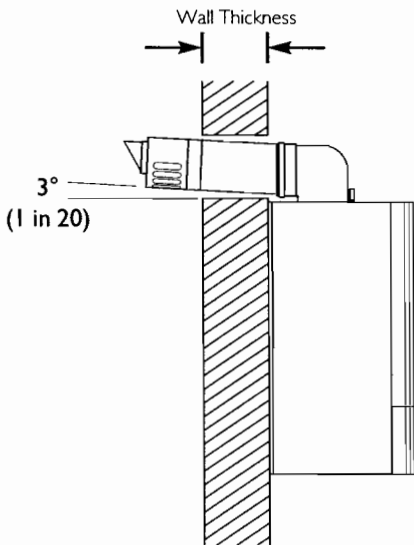

Fig. 26
2. For rear exit - measure the wall thickness (Fig. 26) and to this dimension add 210mm. This dimension to be known as (X).
4. For side exit - measure the distance from the edge of the wall plate to the inner face of the wall (Fig. 26) and to this dimension add the wall thickness + 250mm. This dimension to be known as (Z).